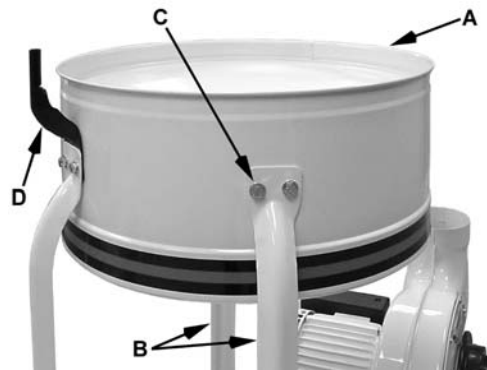
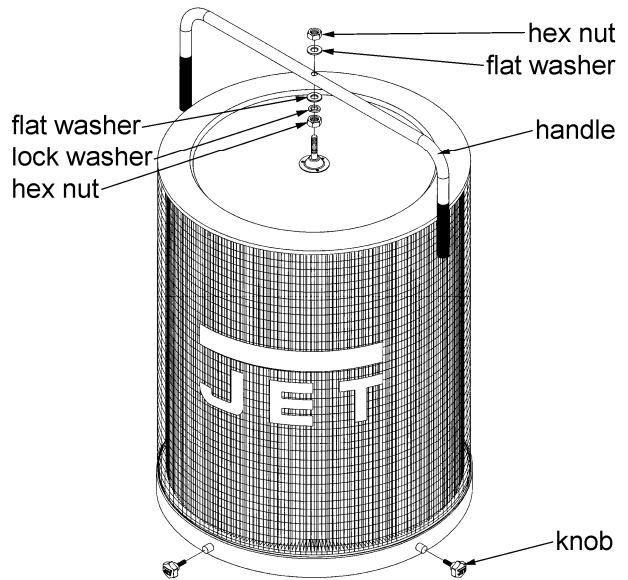

Figure 5
Figure 10
- Install the *housing* (A, Fig. 5) to two *support legs* (B, Fig. 5) using four M8 x 16 hex cap bolts, eight M8 flat washers, and four M8 hex nuts (C, Fig. 5). *Be sure hose opening faces fan housing.*
Note: For filter bag models only – Before attaching third support bracket place the *hanger bracket* (D, Fig.5) between the support bracket and the housing. This action is not necessary for canister filter units.
1. Mount the handle onto the canister filter with two M10 hex nuts, two M10 flat washers, and a M10 lock washer (Figure 10).
2. Mount the canister filter on top of the *collector housing* (A, Fig. 5) and tighten the knobs on the *canister filter* (Figure 10).